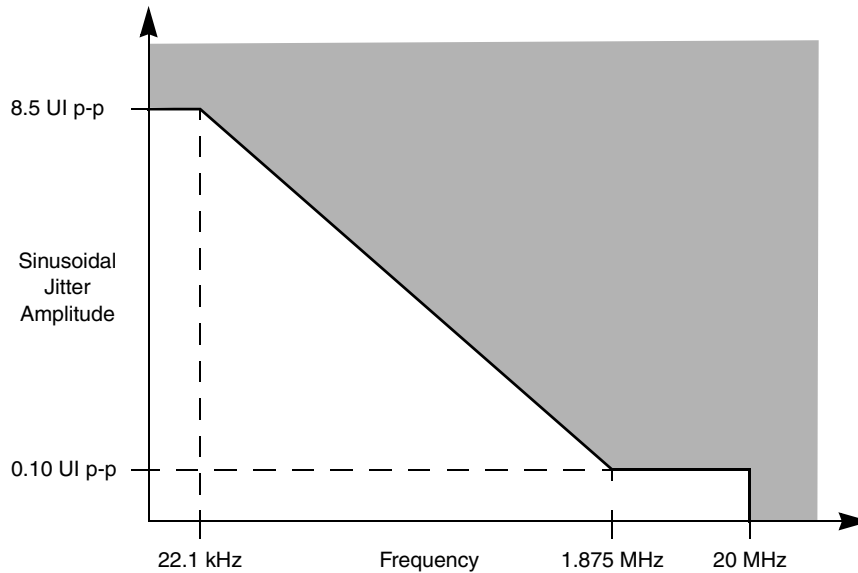

Figure 18. Single Frequency Sinusoidal Jitter Limits
Notes: <ol style="list-style-type: none"> <li>1. Measured at receiver.</li> <li>2. Total jitter is composed of three components, deterministic jitter, random jitter, and single frequency sinusoidal jitter. The sinusoidal jitter may have any amplitude and frequency in the unshaded region of Figure 18. The sinusoidal jitter component is included to ensure margin for low frequency jitter, wander, noise, crosstalk, and other variable system effects.</li> </ol>
- See Figure 18 for single frequency sinusoidal jitter limits
- Refer to RapidIO™ 1x/4x LP Serial Physical Layer Specification for interpretation of jitter specifications. Also see Figure 18.